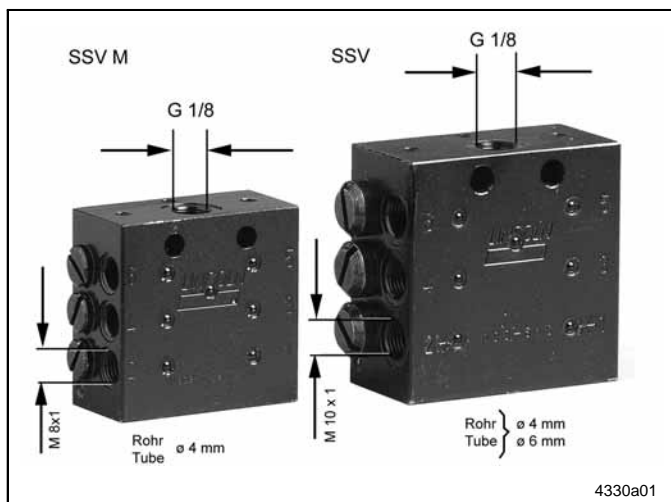

Fig. 11 Differences between SSV M and SSV
- Progressive divider valves **SSV M** and **SSV** operate in **the same way**. Apart from their outer dimensions (see below dimensions) they also differ in the following data (also see fig. 11).